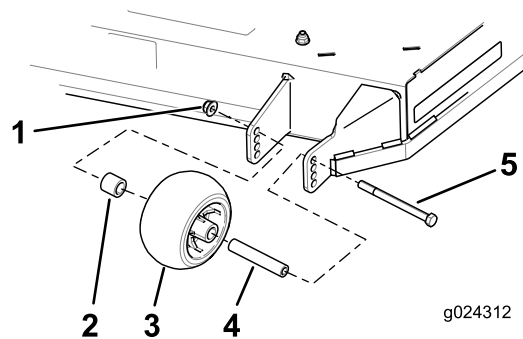

Figure 23
3. Remove the flange nut, anti-scalp roller and bolt from the bracket (Figure 23).
4. Align the bolt and anti-scalp roller in the hole of the bracket that matched the closest height of cut position (Figure 23).
5. Insert the bolt into the bracket hole and secure the bolt and anti-scalp roller with the flange nut (Figure 23).